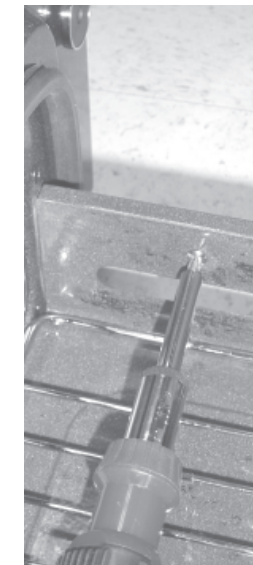

Fig. 1
2. Pull the drawer away from the oven. Using a phillips-head screwdriver remove the two drawer screws from the insides of the oven drawer (See Fig. 1).